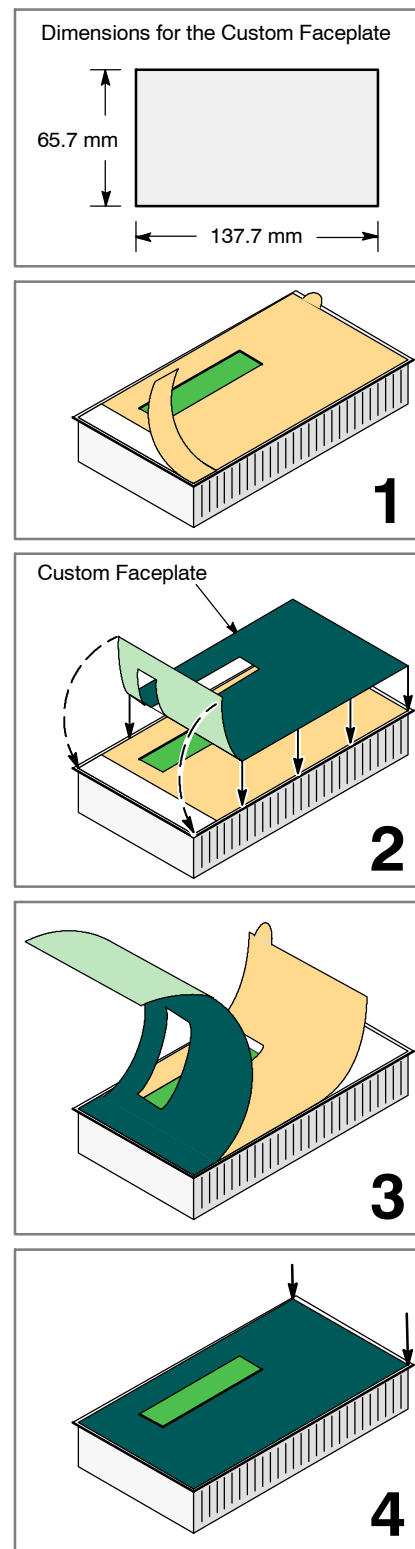

Figure 2-6 Installing a Custom Faceplate
The upper diagram of Figure 2-6 shows the dimensions for the faceplate of the TD 200C. Blank faceplate material is available in two sizes:
1. As shown in Figure 2-6, remove the strip of protective paper on the left side of the TD 200C to expose a strip of the adhesive.
4. Carefully position the faceplate onto the TD 200C. Firmly press the faceplate onto the adhesive as shown in Figure 2-6, taking care to remove any air bubbles that may have been trapped underneath.